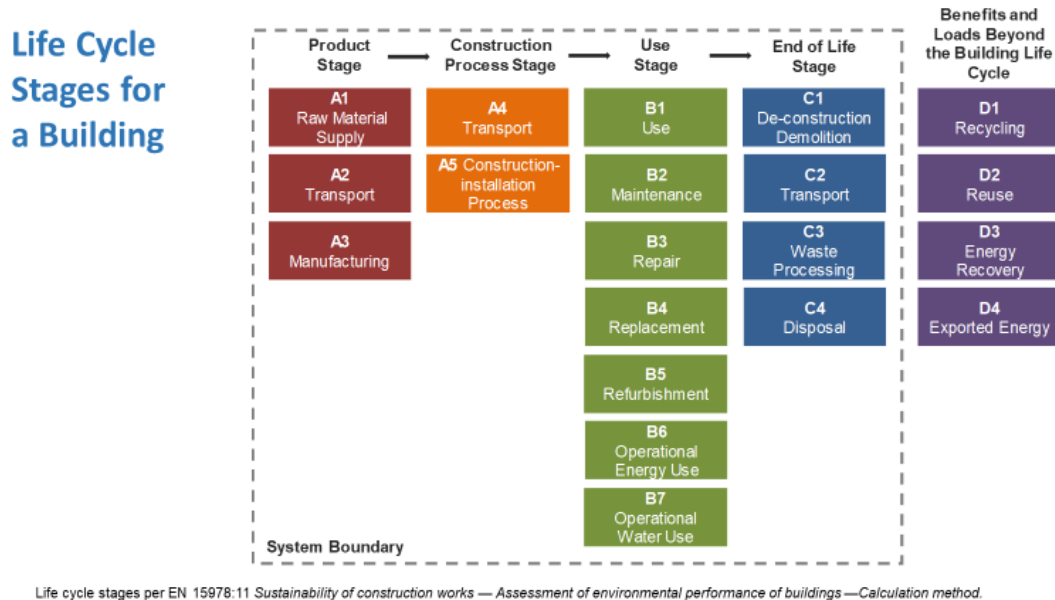

Figure 1
Generally, scope is cradle to factory gate [A1 – A3 (figure 1)], or the extraction and manufacturing stages. Downstream phases not included due to uncertainty over product use [B] and end of life [C] stages (myriad use options).
- Steps: (figure 1)
2. Add transportation to site and construction (A4-A5), use (B), and end-of-life (C) phases. Note that B6 and B7 (operational emissions) are optional.